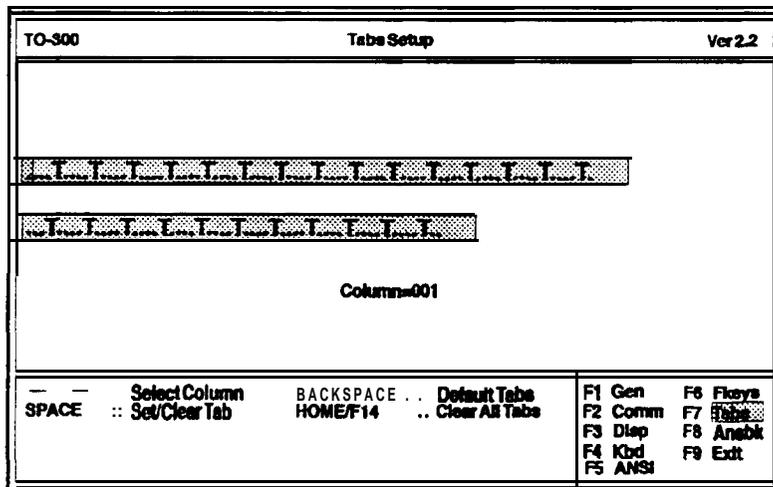

Figure 4-4. Tabs Setup Screen for TO-300 Terminals
10. As necessary, press F7 to change the **Tab** settings. The Tabs Setup screen is displayed as shown in Figure 4-4. This screen allows you to change the Tab settings.
- o The **T** on the line indicates the current Tab positions. In the example shown in Figure 4-4, the Tabs are evenly spaced at **every fifth** column along the entire 132 character line.
- d. When the Tabs have been reset, you are ready to change another Setup or **Exit** from the Setup screens. The box in the lower right corner of Figure 4-4 shows the Function Keys that can be used.